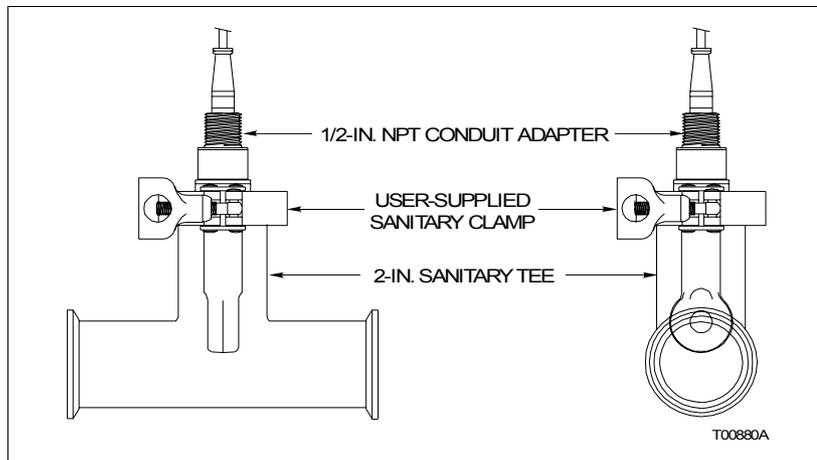

Figure PR4-2. Sanitary In-Line Flow Assembly with Tri-Clamp
- ❑ 4. Clamp the sensor to the two-inch sanitary tri-clamp tee using the sanitary tri-clamp, being sure to maintain the sensor orientation (Fig. PR4-2).